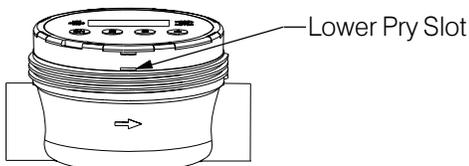

Figure 1
1. Unscrew meter cap (item 1). Use a strap type oil filter wrench or large 5" jaw pipe wrench if needed.
2. Insert a wide, flat-head screwdriver into the bottom slot and gently pry up meter cover (see Figure 1).